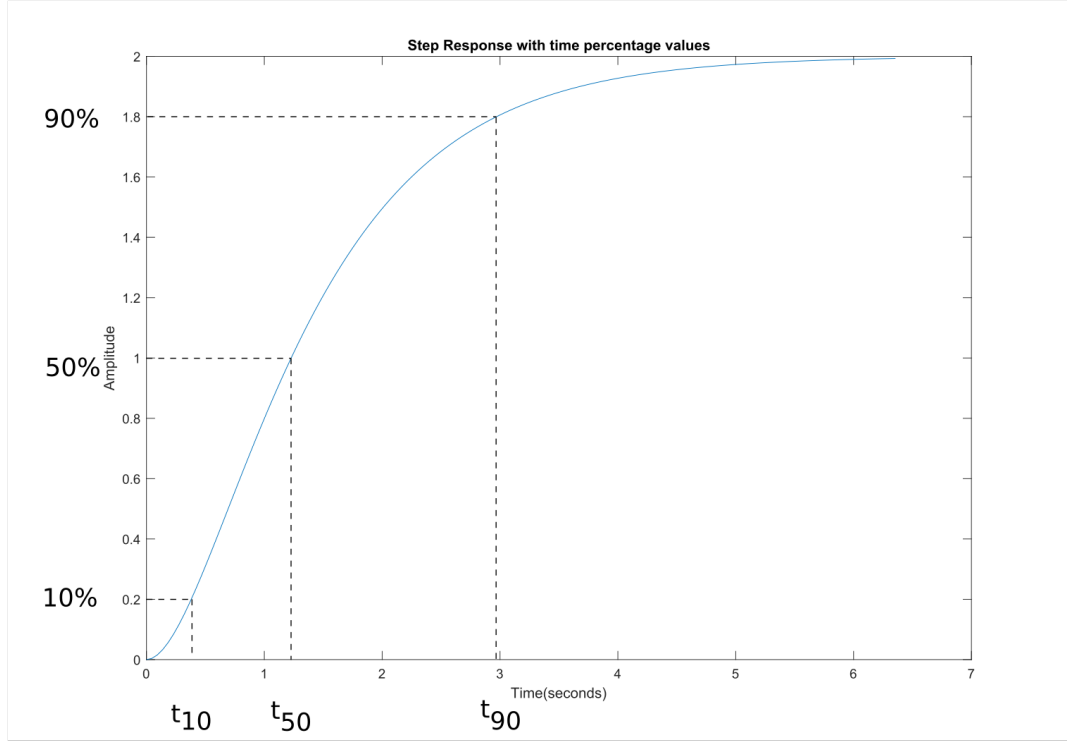

Figure 3: Step response of a PT₂-System with time percentage values
In order to calculate the transfer function using the method of Schwarze, time percentage values are determined. These are obtained from the step response as shown in Figure 3.
2. For the calculation of the time factor T , the percentage values of the final value from the step response are used. In case of Figure 3